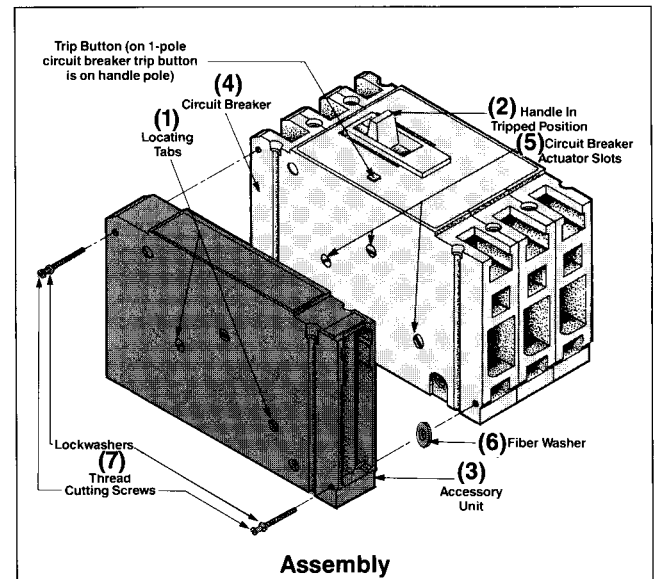

Figure 1
- Before assembling accessory unit to the breaker, make certain that all exposed accessory actuator slots are in line with the locating tabs (1) and the circuit breaker handle (2) is in the tripped position (Figure 1).
- Position accessory unit (3) against the side of the circuit breaker (4) carefully to determine that all accessory actuator blades are engaged into the actuator slots of the circuit breaker (5). NOTE: Fiber washer (6) must be placed between the circuit breaker and the accessory unit as shown in Figure 1.
- Secure accessory unit to the circuit breaker using two #6-20 x 1.38 in. thread cutting screws and split lockwashers (7).